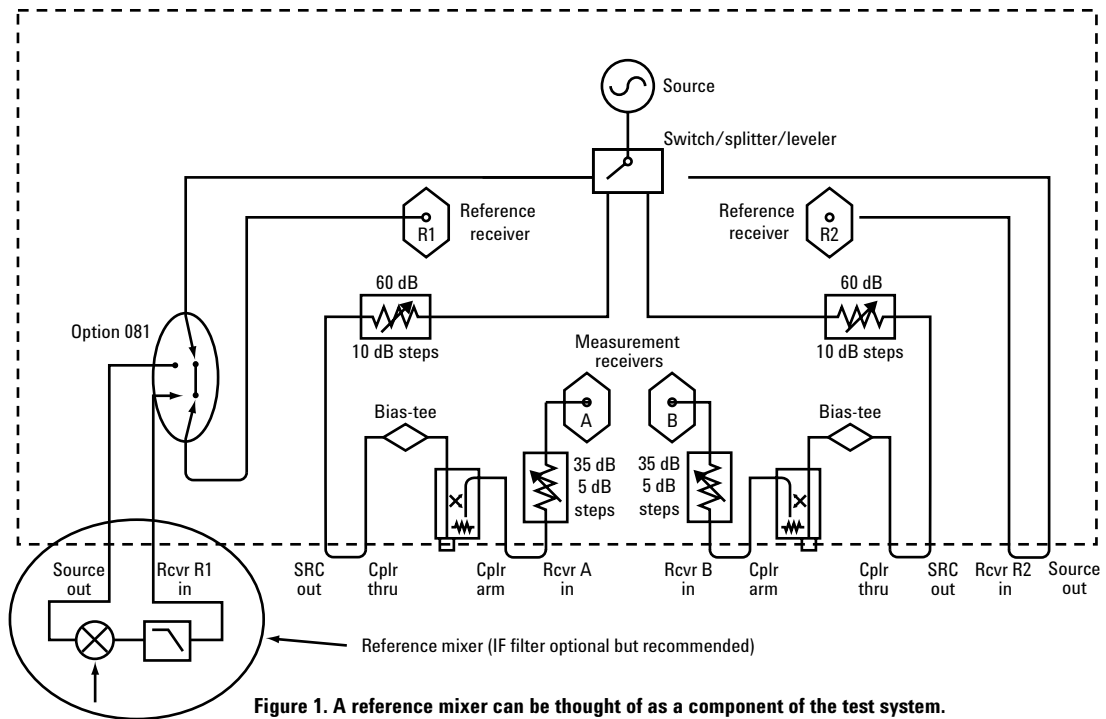

Figure 1. A reference mixer can be thought of as a component of the test system.
**Reference mixer:** The purpose of the reference mixer is to provide a phase reference for the measurements. The reference mixer is connected in the reference receiver path of the network analyzer, between the “source out” and “receiver R1 in” ports, as shown in Figure 1. The reference mixer can be considered part of the test system setup, like the network analyzer or test cables. The reference mixer does not need to be moved, connected, or disconnected during the calibration or measurement process; it remains in place all the time. The reference mixer is switched in and out of the measurement path, as needed, by the firmware. See the switch labeled Option 081 in Figure 1. As explained in the *Reference Mixer Attributes* section, there are very few requirements on the reference mixer.